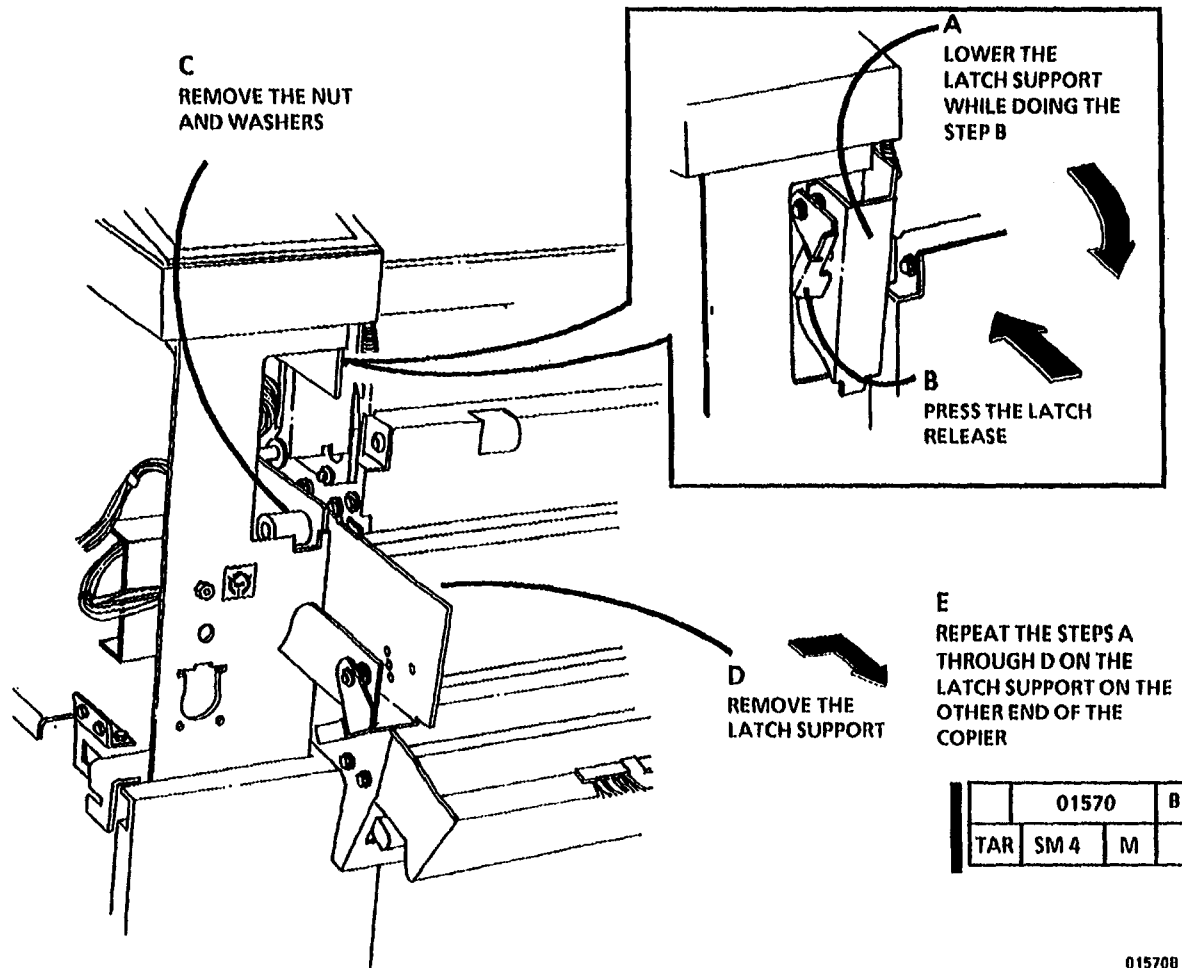

Figure 3. Remove the Latch Supports
7. (Figure 3): Remove the Latch Supports.